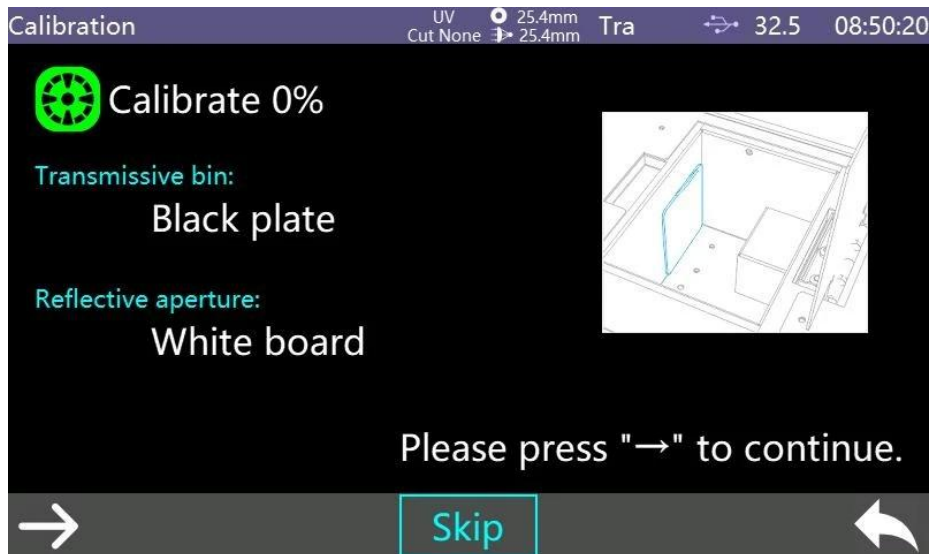

Figure 7
1, Enter into main menu as shown in Figure 3, click "Calibrate" to enter 0% calibration. Place the transmission black plate into transmission sample bin and stick it to the side of integrating sphere tightly, close the cover, and click the test key to start calibration.as shown in Figure 7.
- 1, Enter the main menu as shown in Figure 3, click "Calibrate" to enter 0% calibration. Place the transmission black plate into transmission sample bin and stick it to the side of integrating sphere tightly, close the cover, and click the test key to start calibration.as shown in Figure 7.